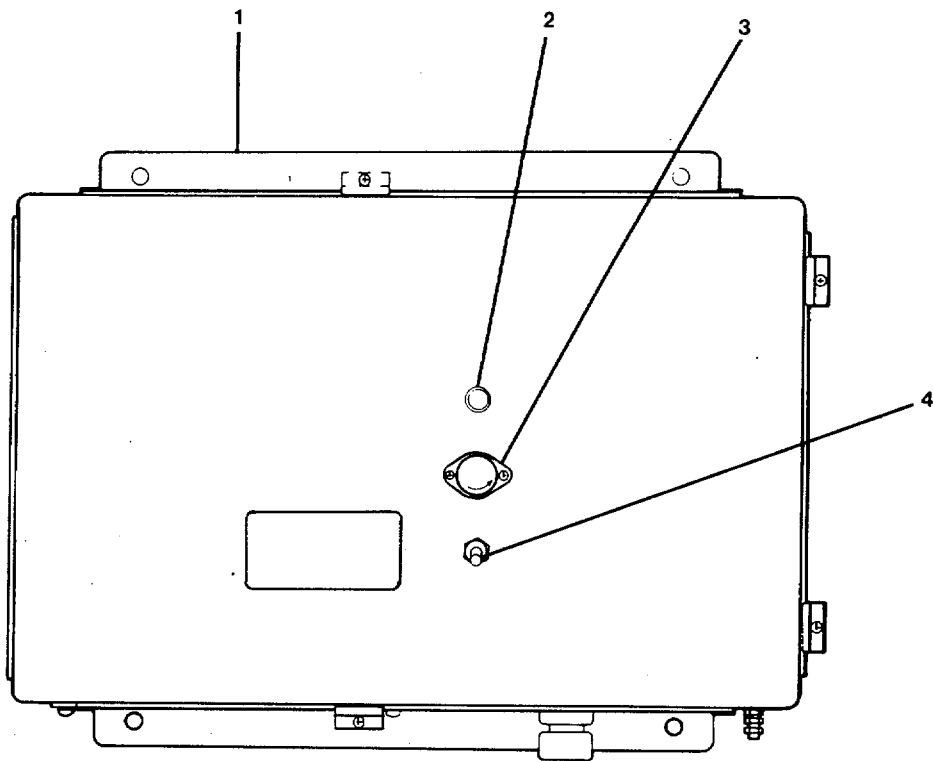

FIGURE 2-8. Relay Transmitter Lamp and Fuse Replacement.
2-17. Repair Relay Transmitter. (FIGURE 2-8)
- (1) On relay transmitter (1, FIGURE 2-8), set POWER switch (4) to OFF.
- (2) Remove lampholder lens by turning lens counterclockwise.